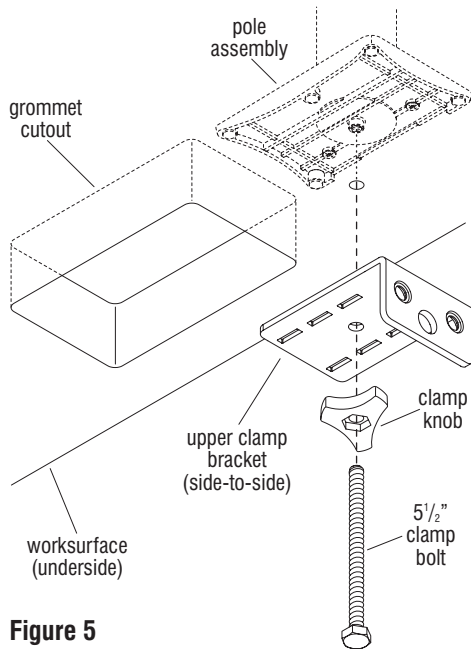

Figure 5
4. Flip upper clamp bracket upside down as illustrated in Figures 5 & 6 and position the upper clamp bracket side-to-side (Figure 5) (with the flange to face the left or right table sides) or front-to-back (Figure 6) over the drilled mounting hole as illustrated, align and hold in place from under the worksurface (Figures 5 & 6).
5. Slide the clamp knob onto the 5 1/2" long clamp bolt and tap the bolt head into the recess in the knob, ensuring the bolt head is securely engaged into the knob (Figures 5 & 6).